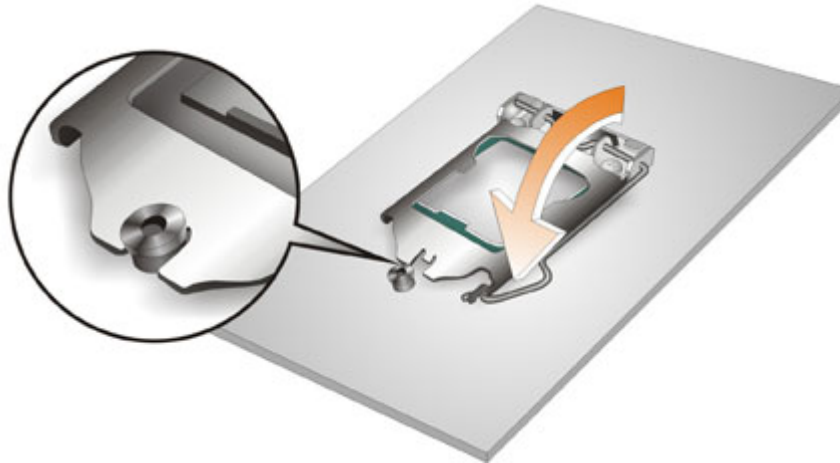

Figure 4-4: Close the Socket LGA1156
- Step 8:** Close the CPU socket. Close the load plate and pull the load lever back a little to have the load plate be able to secure to the knob. Engage the load lever by pushing it back to its original position (**Figure 4-4**). There will be some resistance, but will not require extreme pressure.